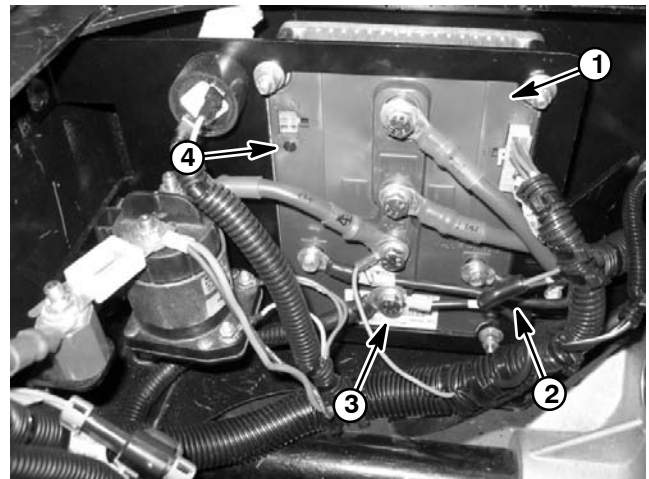

Figure 16
4. Using a jumper wire, connect gray controller lead to ground post (B-) on controller (Fig. 16).